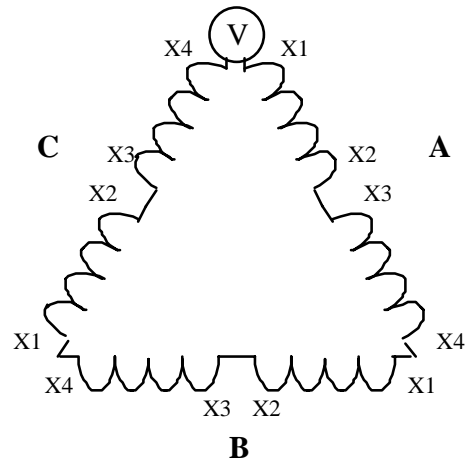

Figure 3
- c. Second, connect the third secondary winding as shown in Figure 3 below. **Do not close the delta!** What should the voltage be at this open end? Measure this open terminal voltage and explain your results in the conclusion of the report.
- b. Connect the secondary windings into a delta as shown in Figure 3 above; **make sure to leave the delta open!** After checking with the professor or TA make sure the circuit is properly connected, take the voltage up to rated. Measure the open-ended voltage.